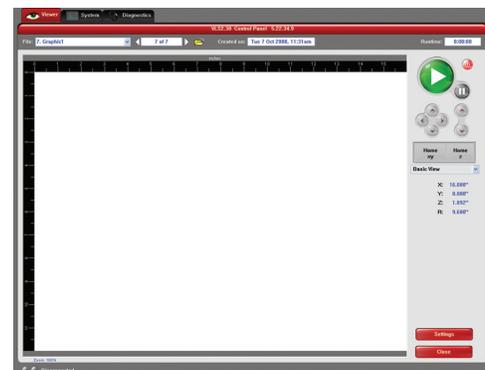

Figure 6
8. Click on the VLS system icon on the taskbar and the current print job will appear in the Viewer Tab of the Universal Control Panel (Figure 6).
4. Click the green START button on the UCP to begin laser processing (Figure 6 on previous page).